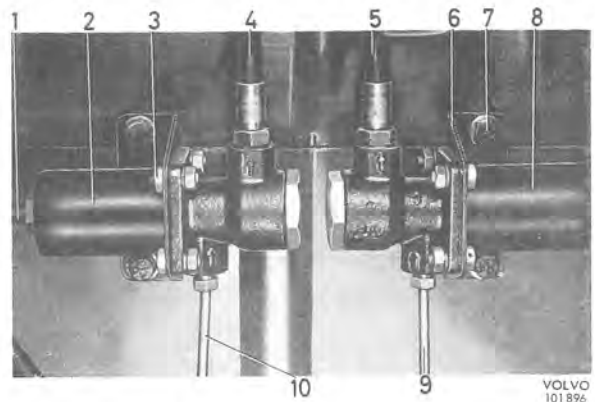
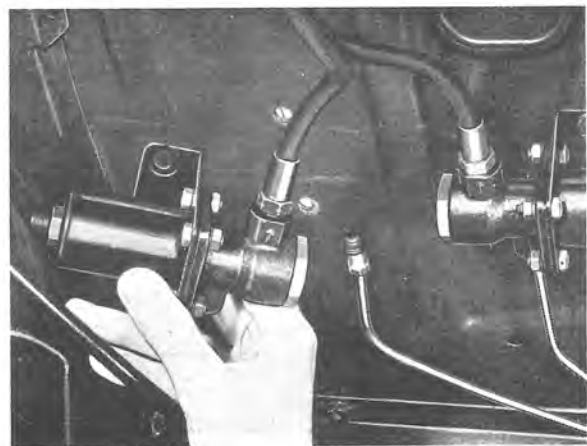

Fig. 5-57. Brake valves installed
Fig. 5-58. Removing brake valve
Unscrew and plug the brake pipe connection (10, Fig. 5-57). Slacken the brake hose (4) a max. 1/4 turn at the valve. Remove the attaching screw and unscrew the valve from the brake hose, see Fig. 5-58.
Screw the brake valve on to the brake hose, see Fig. 5-58. Place the valve in position and check that there is no tension in the hose. Fit the attaching screws and connect up the brake pipe. Tighten the connections. Bleed the brake system.